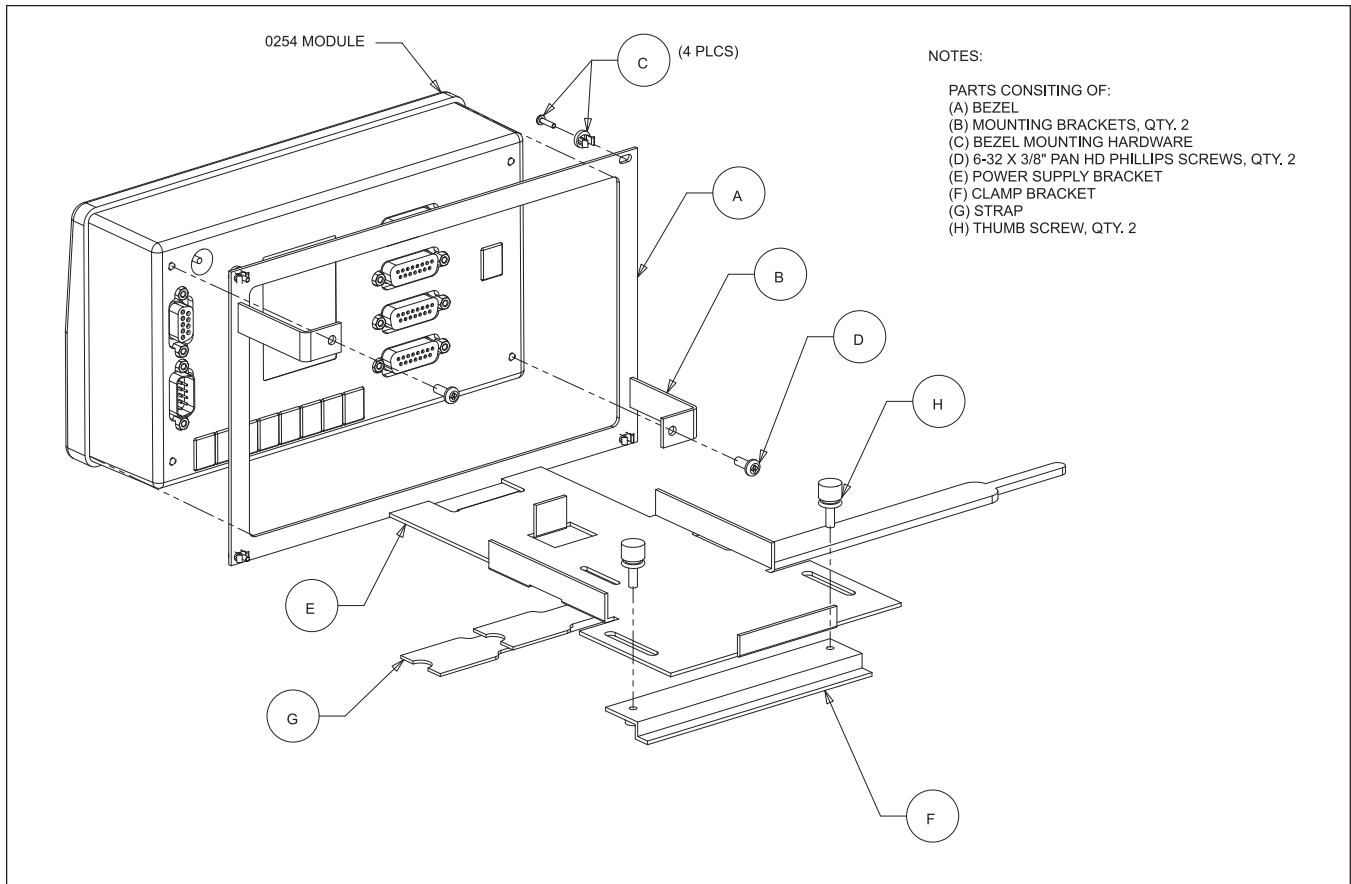
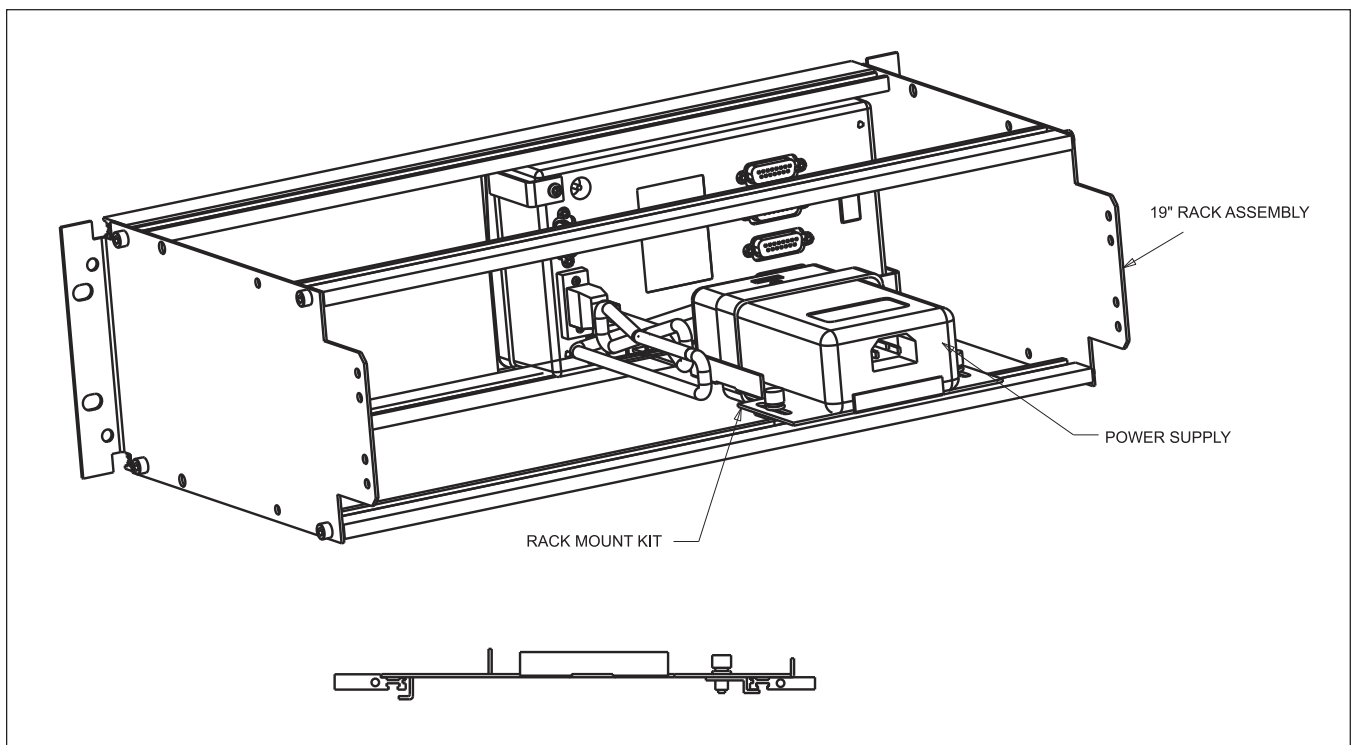

Figure 2-3 Power Supply Bracket and Bezel
Figure 2-4 Rack Installation
1. Slide the flange on the front of the power supply bracket, shown in Figure 2-3 , under the rear channel rail of the box. For an illustration of the rail engagement, refer to Figure 2-4.
2. Slide the flange on the front of the power supply bracket, shown in Figure 2-3 , under the rear channel rail of the rack.
Figure 2-4 shows a completed rack installation.